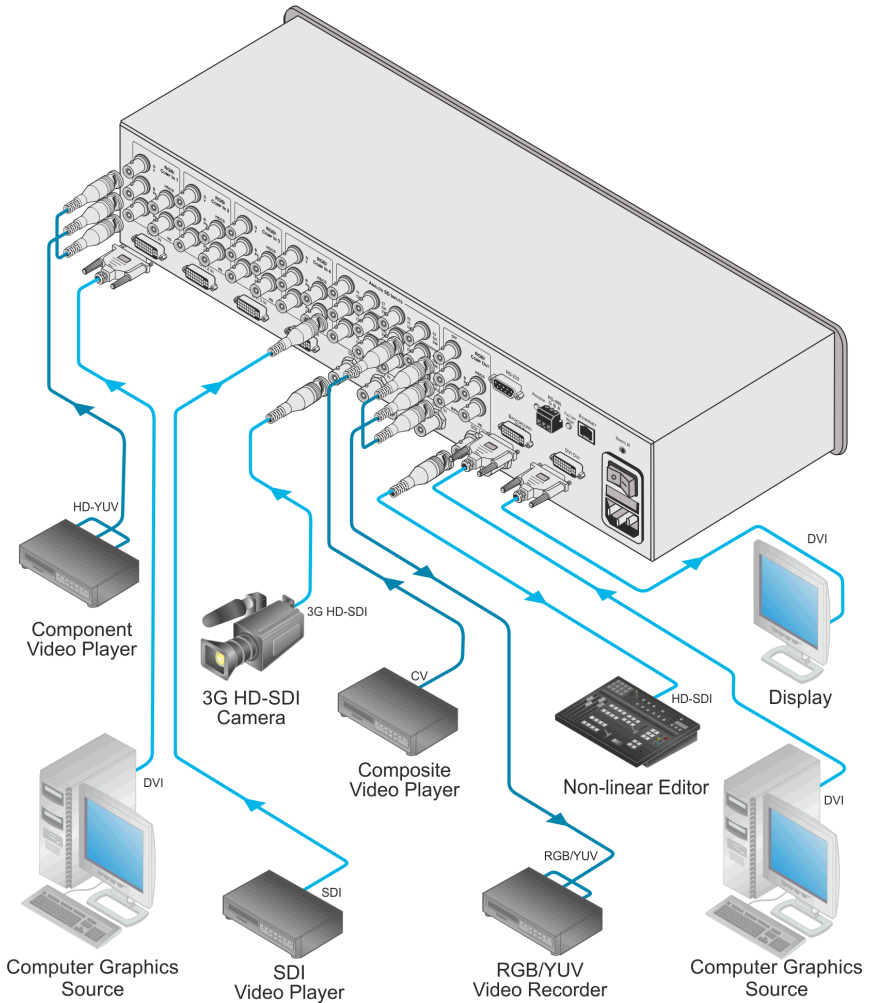

Figure 3: Connecting the MV-5 5 Channel Multiviewer
**To connect the MV-5 5 Channel Multiviewer as illustrated in the example in Figure 3:**